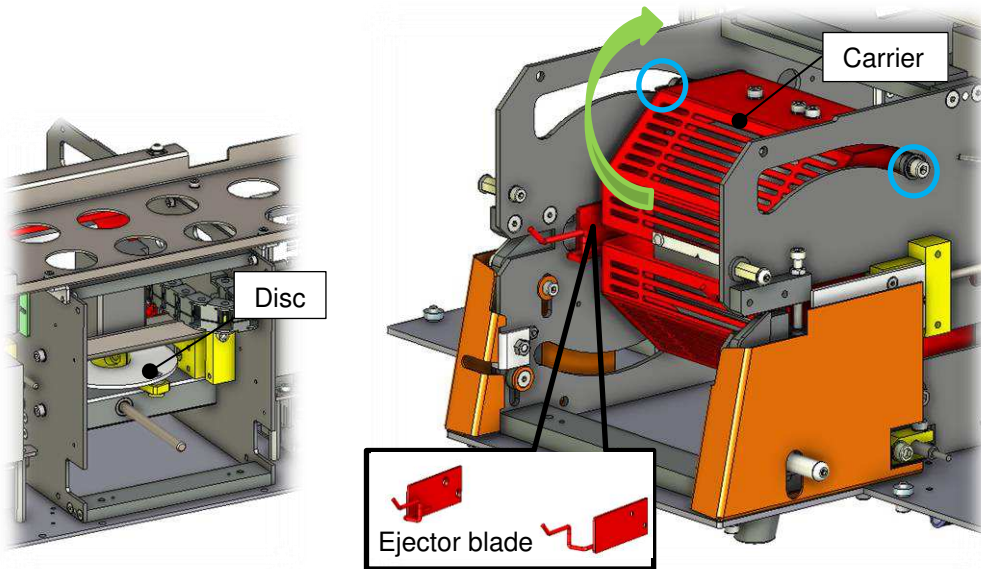

Fig.5 Replace Ejector blade
3. Fig.5 , for RBK3 & RBK4, need to replace Ejector blade (TE PN: 2234840-1 & 2234840-2).